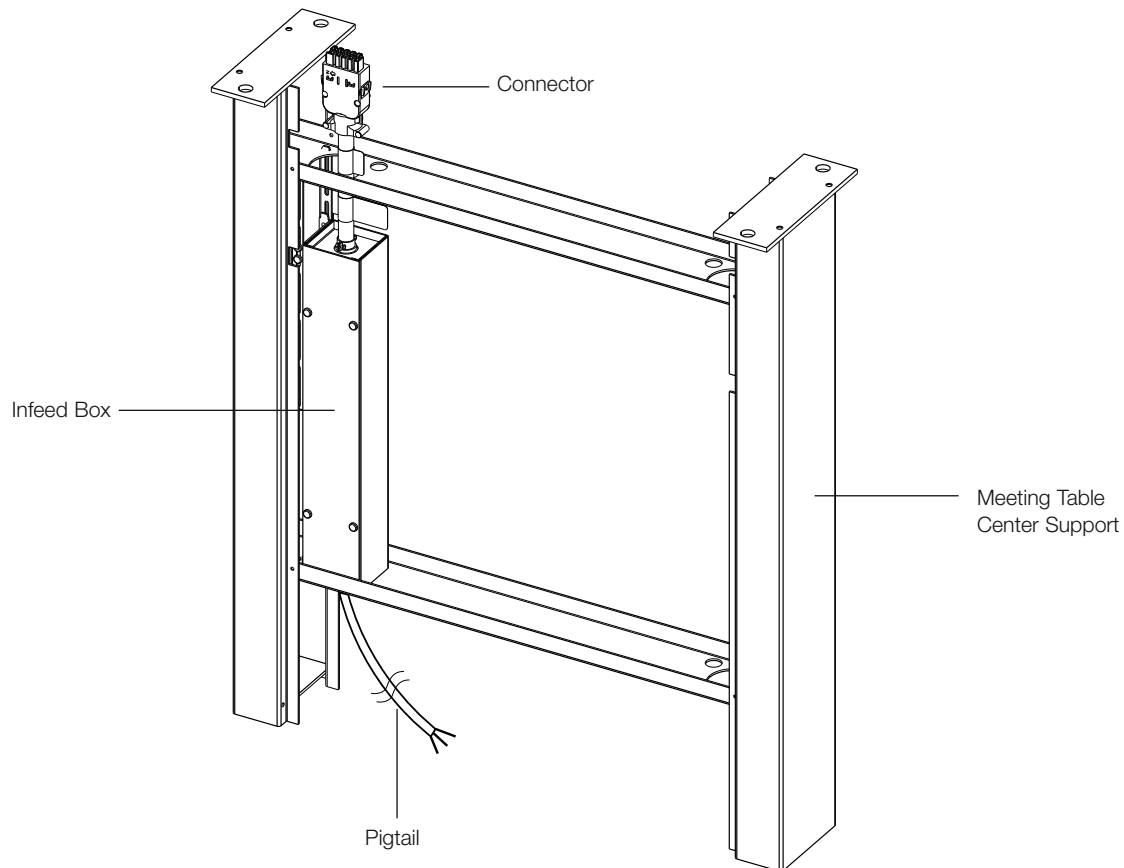

Figure 2. NYC Infeed
- 2) A hardwired infeed box, required in New York City, mounts inside the meeting table center support and includes a connector with six foot pigtail to connect to the closest power harness. See Figure 2.